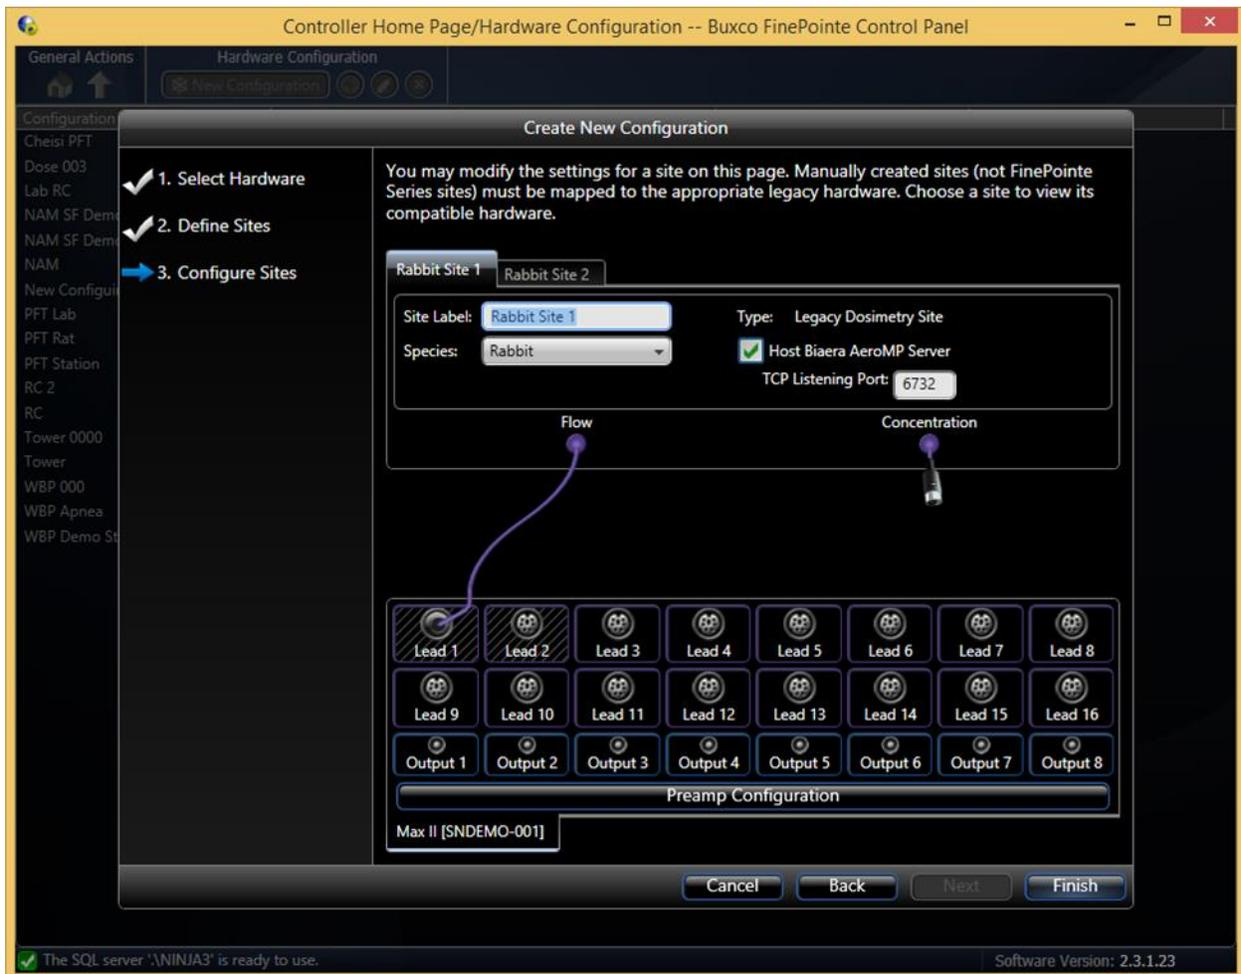
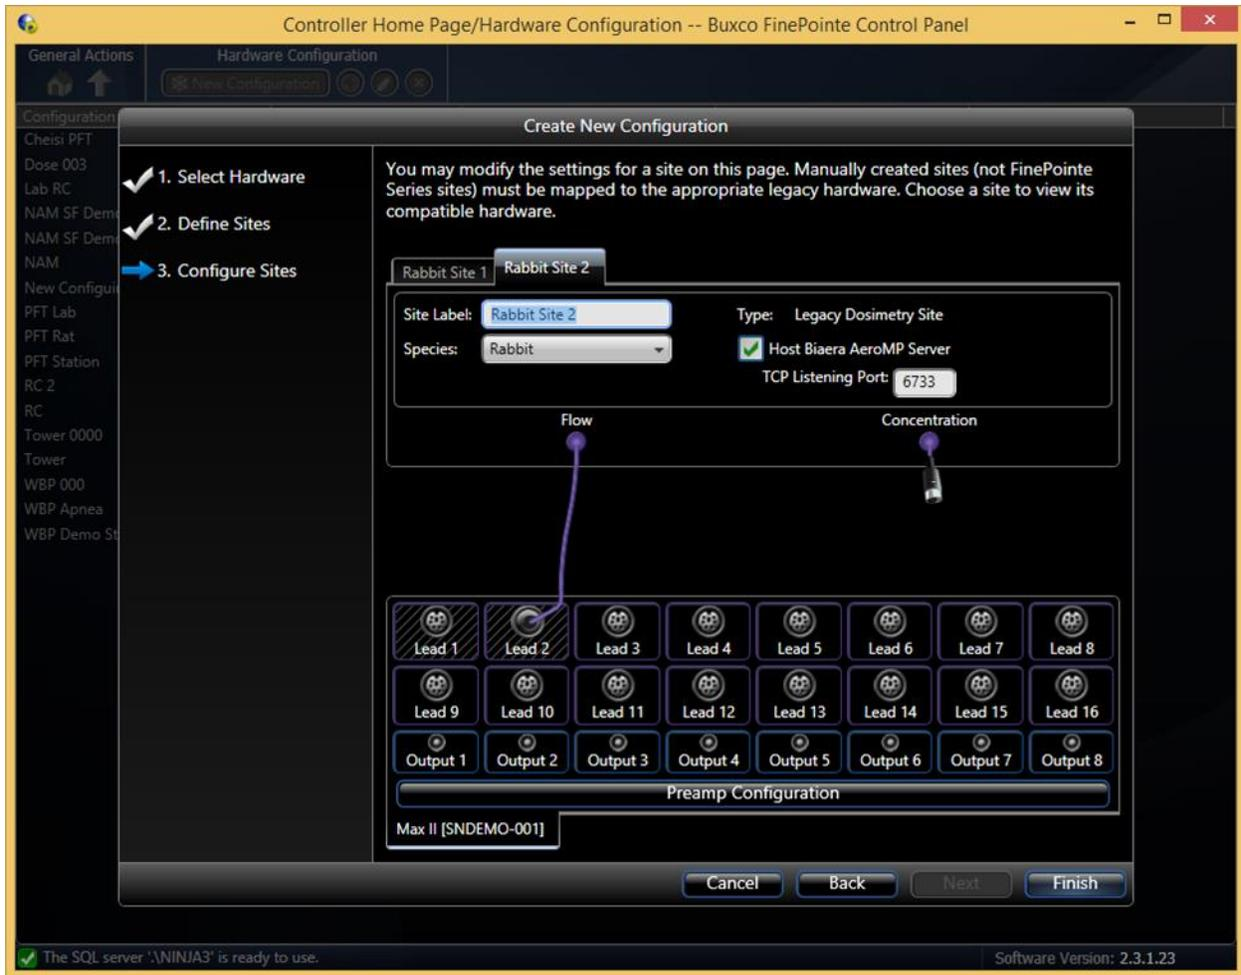

Figure 6. This shows an example setup for Rabbit Site 1 which enables AeroMP support.
Figure 7. This shows an example setup for Rabbit Site 2 which enables AeroMP support. Note the TCP Listening Port is different from that on the other site.
*Note:* If multiple Biaera AeroMP devices are being used, one per hardware site, a disparate **TCP Listening Port** must be specified for each. For example, The **TCP Listening Port** for Rabbit Site 1 is 6723 (Figure 6), which for Rabbit Site 2 it is 6733 (Figure 7).